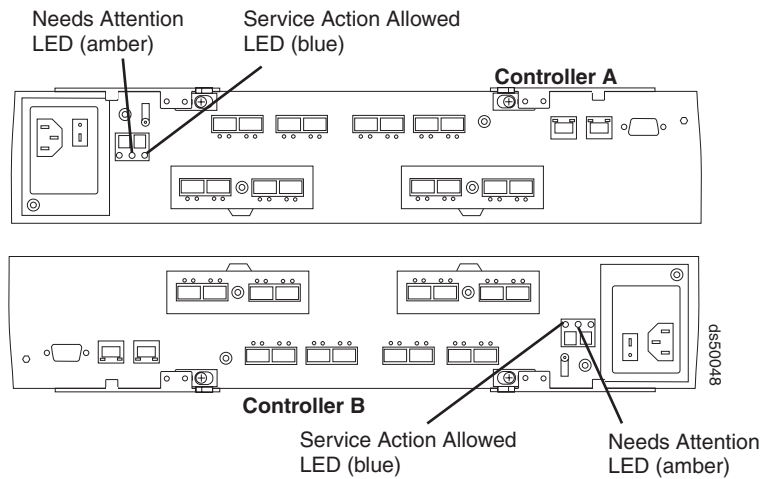

Figure 106. RAID controller Needs Attention and Service Action Allowed LEDs
- Replacing a failed controller, locate the failed controller by checking the Needs Attention status LEDs on the controllers in the storage subsystem (see Figure 106 on page 172). Skip to step 4 on page 172.
Figure 106 shows the location of the Service Action Allowed status LED on the back of a controller.